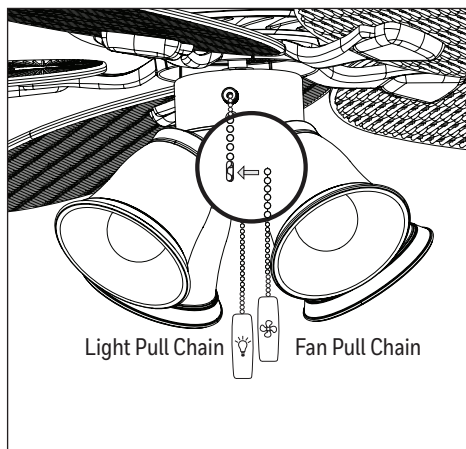

Figure 5.10
10. Attach the pull chain extensions to the pull chains (Figure 5.10).